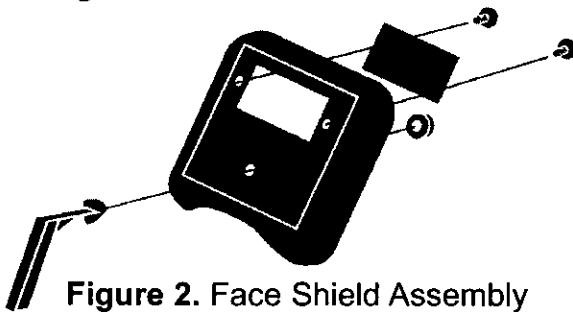

Figure 2. Face Shield Assembly
- See Figure 2 for face shield assembly.